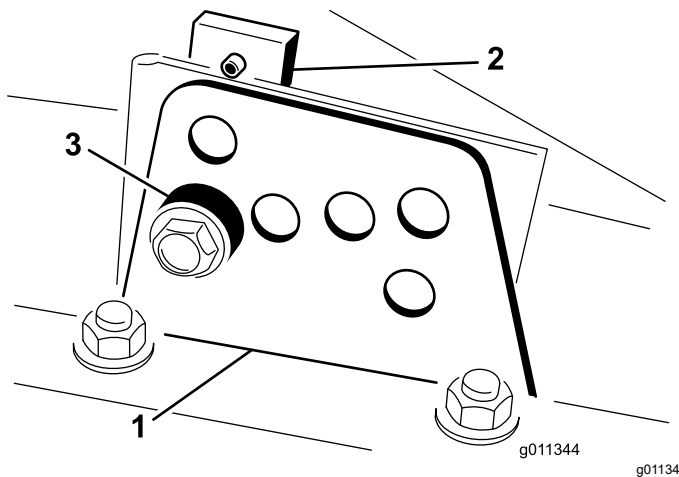

Figure 6
2. Loosen the bolt securing each height-of-cut bracket to the height-of-cut plate (front and each side) as shown in Figure 6.
4. While supporting the chamber, remove the spacer (Figure 6).